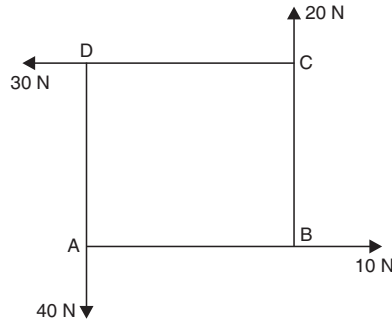

Fig. 3.33
**Sol.** Fig. 3.33 shows the system of the given forces.